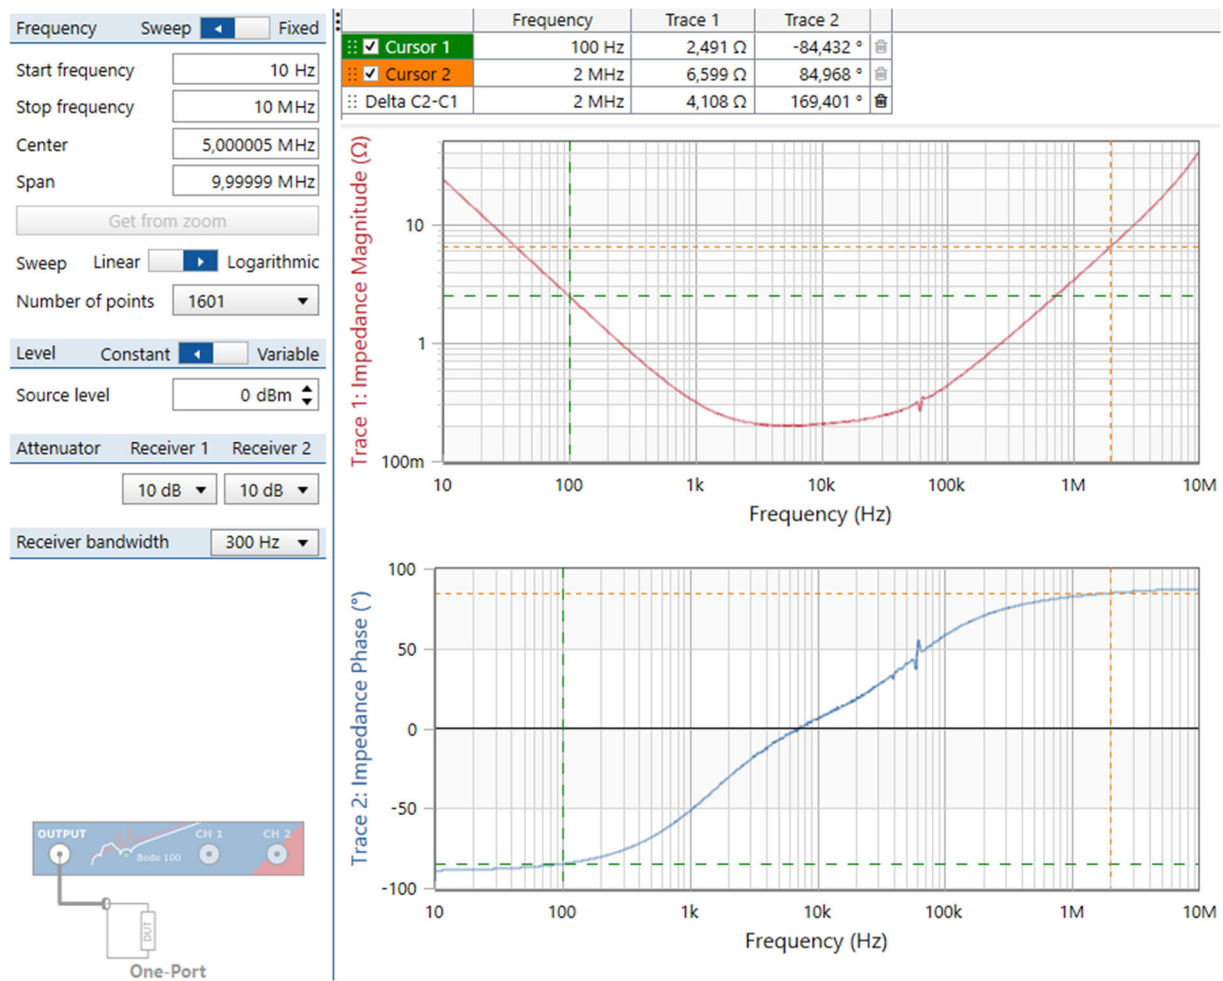

Fig. 3.1.2: Bode100 One-Port Impedance measurement of isolated 680μF (nominal) capacitor.
- In the Matlab listing below, replace values of Z_{C_abs} with measured impedance of Fig. 3.1.2 in the frequencies given above as vector f_C .